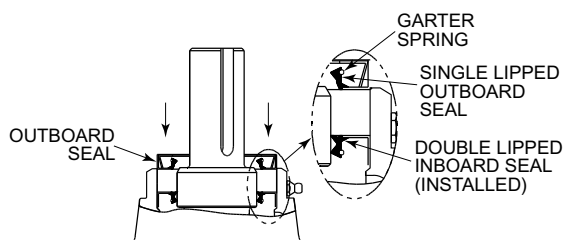

Figure 6.2.3.4 Final Installation of Inboard Seal
- Place the ring on the seal. Reference Figure 6.2.3.6